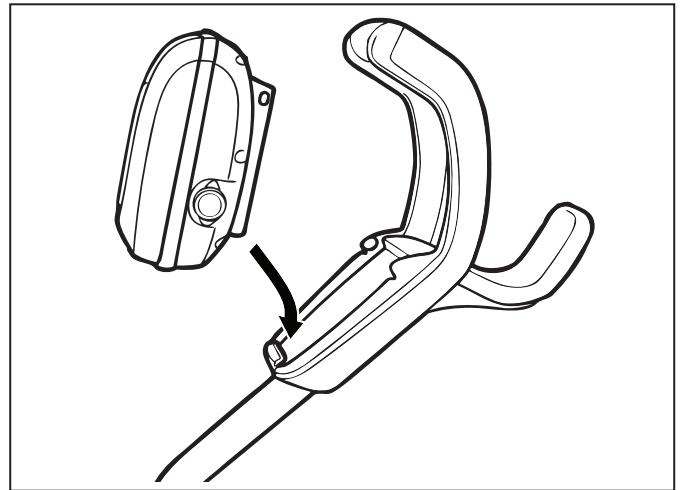

Figure 9. Align Control Unit on Caddy Hook
1. Align the bottom of the control unit with the notch at bottom of the control unit hook on the caddy (Figure 9).